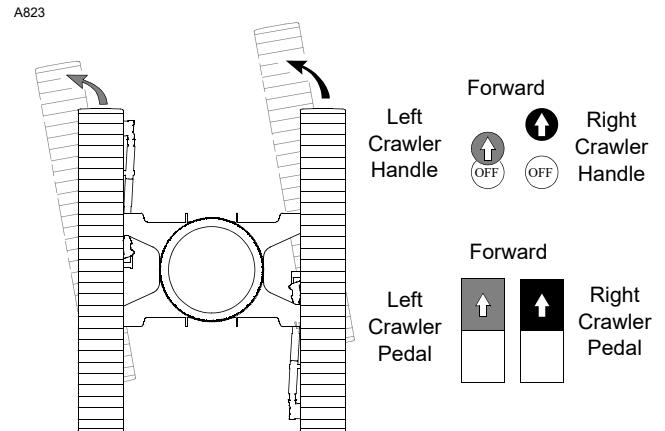
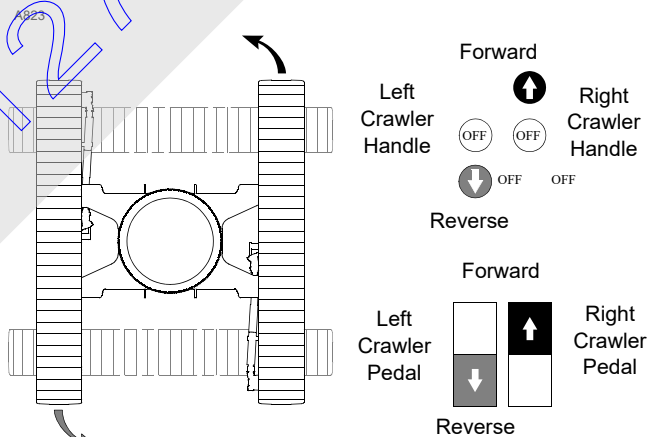

FIGURE 3-23
FIGURE 3-24
- Make gradual turns (Figure 3-23) or counter-rotate (Figure 3-24) whenever possible so both crawlers are always powered.
10. To make a GRADUAL LEFT TURN (Figure 3-23), move both crawler handles/pedals to front from off, but move right crawler handle/pedal farther to front than left
12. To COUNTER-ROTATE LEFT (Figure 3-24), move right crawler handle/pedal to front from off and move left crawler handle/pedal to rear from off.